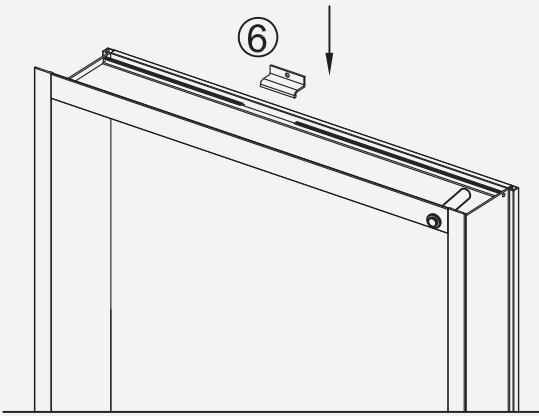

Fig 9
4. Insert surface mount z-clips as shown (Fig 9 & 10).